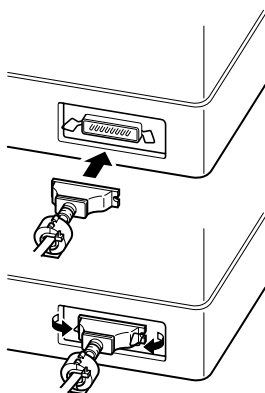

Fig. 4-2 Connecting the parallel interface cable
- ① Turn off the power for both the host computer and the printer.
- ② Insert one connector of the interface cable into the printer's connector and fasten it with the clasp, as shown in Fig. 4-2.
- ③ Insert the other terminal of the interface cable into the host computer's connector, and fasten it with the clasp.